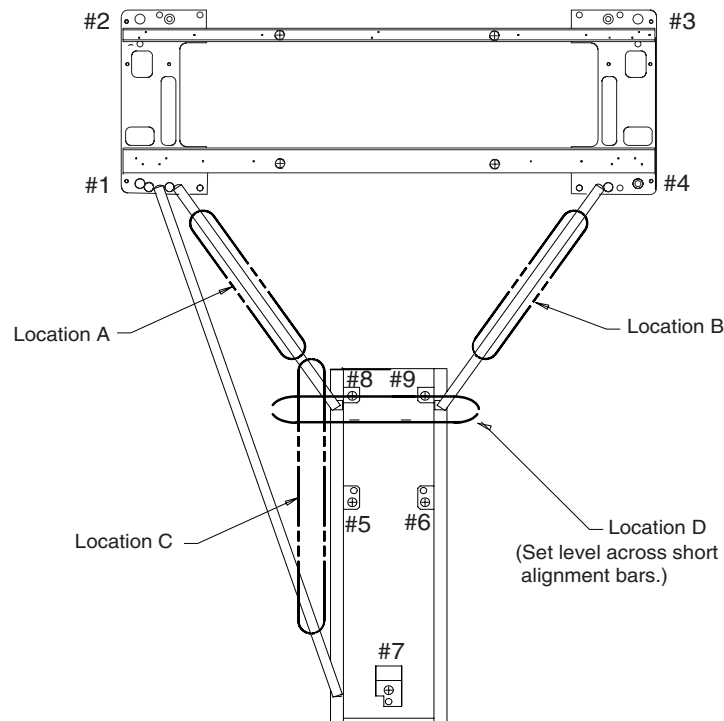

Figure 1-18 Table Base Gantry/Table Level Locations
- 1.) Loosen and unload adjusters #5 and #6. (Refer to Figure 1-18.) Do not remove shipping bolts.
- 5.) Systematically level locations A, B, and C (refer to Figure 1-18) by turning each adjuster. We suggest a maximum of 1 turn at a time.
- 8.) Screw down the adjusters at table Locations #5 and #6, until each rests tightly against its leveling pad. Tighten each adjuster a little more than hand tight, but take care not to unload any of the other table adjusters. It's important that locations #5 - #9 (Figure 1-18) all bear part of the table's load.
- 1.) Re-check bubble levels and loading first. Refer to Figure 1-18, on page 37.